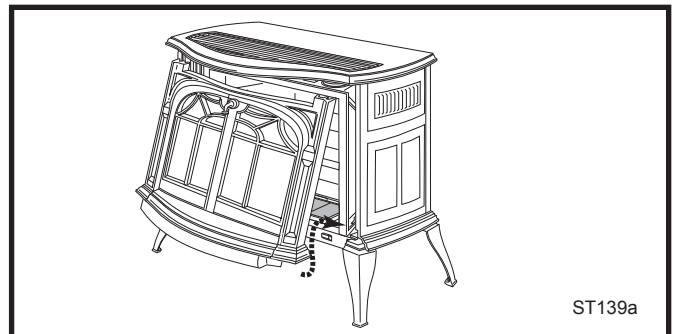

Fig. 26 Replace the front panel.
- Replace the stove front by grasping it by the left and right edges. Lift it so that tabs on the back side of the top corners engage notches at the top forward corners of the stove sides. Then gently swing the bottom of the front panel to a vertical position, and lower it till prongs on its bottom left and right corners engage with notches cast into the tops of the forward legs. (Fig. 26) Test that the front is installed securely by grasping two of panel's vertical bars, and pulling the panel toward yourself. When the panel is in place properly you should not be able to pull the bottom of the front toward yourself without also lifting it.